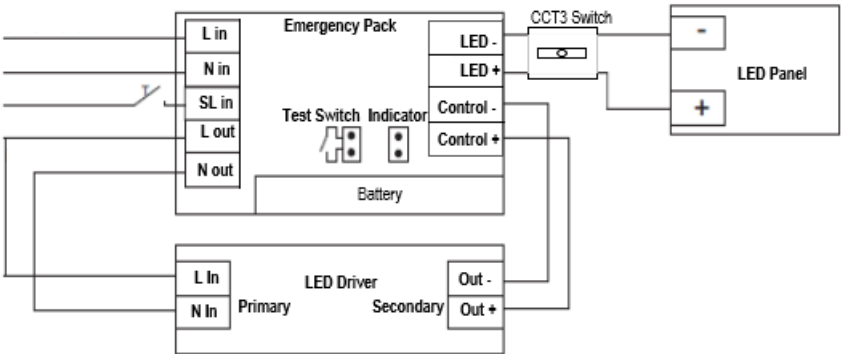

Fig. 2
- Connect "L out" and "N out" to L and N in on the primary side of the LED panel driver. (see Fig. 2)